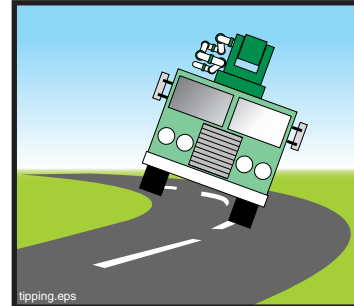

Figure 11
- 4.10 **WARNING** Truck mounted concrete pumps are generally top-heavy. Use caution when making sharp turns with the vehicle (Figure 11).